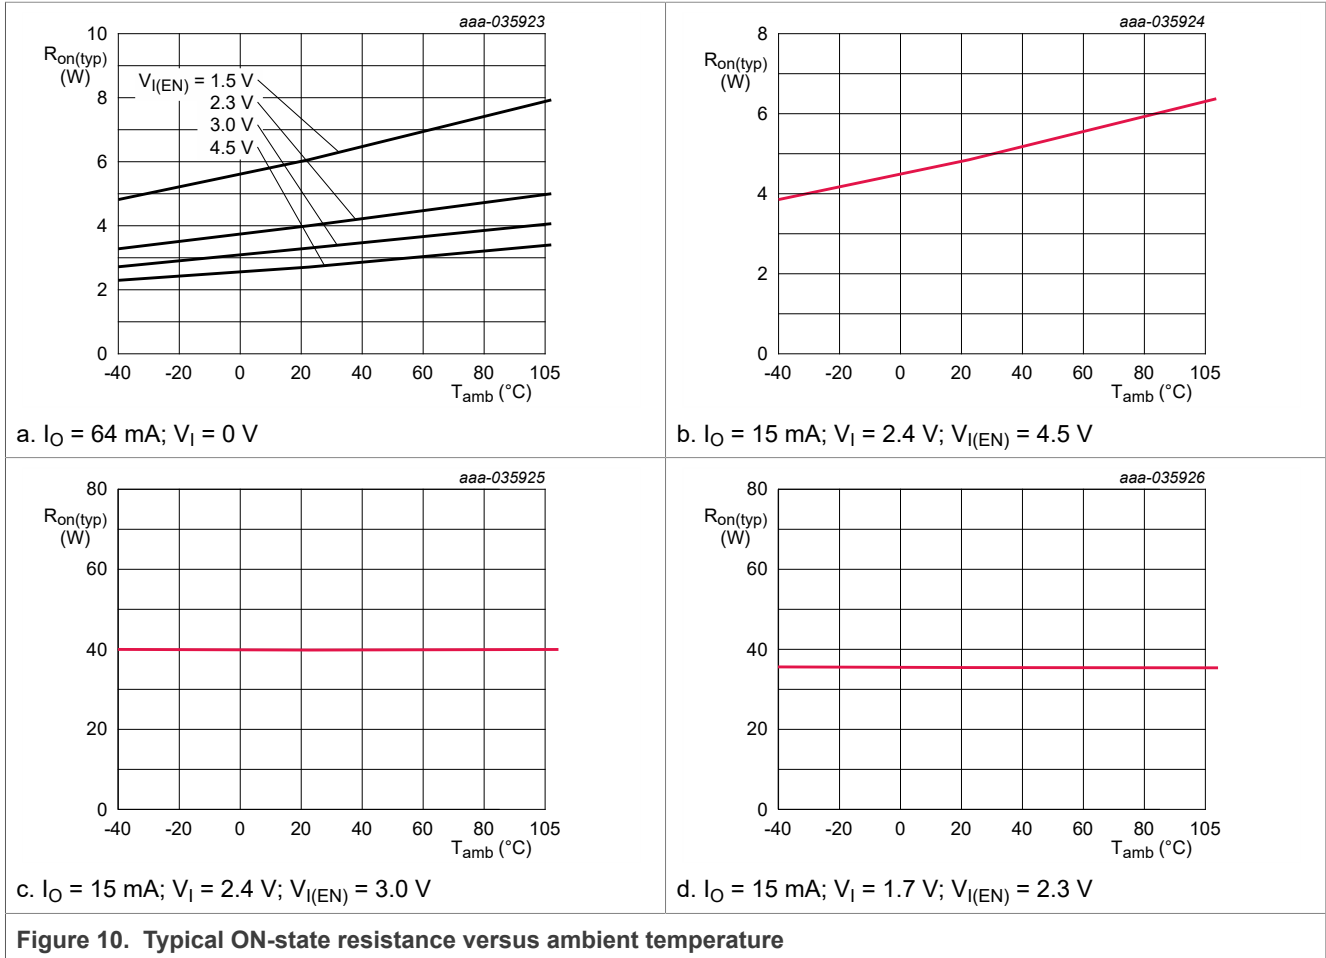

Figure 10. Typical ON-state resistance versus ambient temperature
- [4] See curves in Figure 10 for typical temperature and VI(EN) behavior.